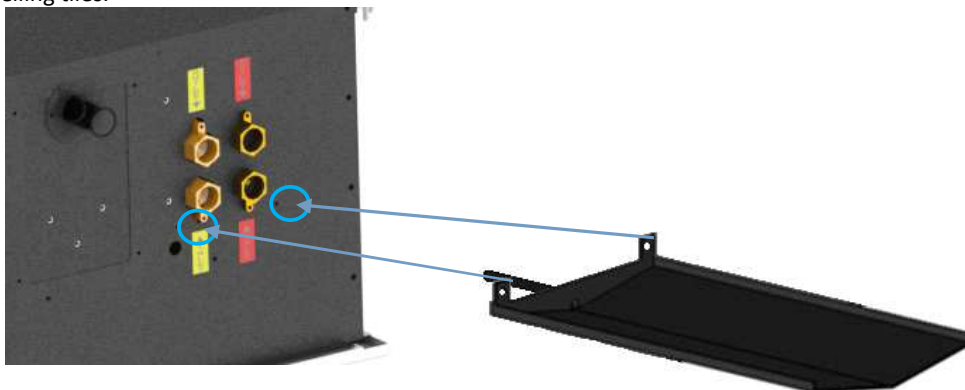

Figure B.8.1
1. Align the two screw holes in the fixing plate to the two holes in the external drain pan. (Figure B.8.1)